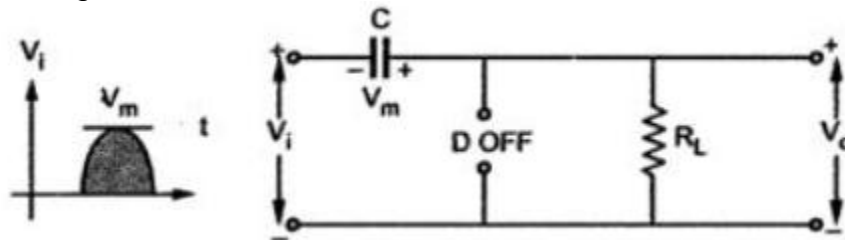

Fig. 1.69 Operation of Positive clamper during Positive half cycle
- But due to large time constant, it hardly gets discharged during positive half cycle of V_i . This is shown in the Fig. 1.69